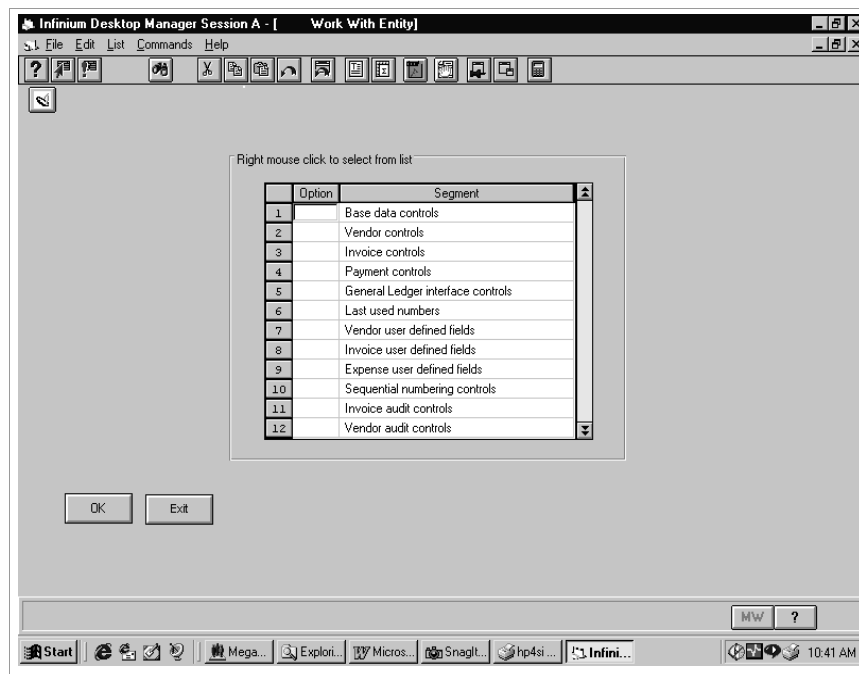

Figure 3-2: Work With Entity selection screen
- Select *Work with entity* [WWE]. The system displays the screen shown in Figure 3-2.
- 5 Press Enter twice. The system returns you to the Work With Entity selection screen shown in Figure 3-2 and updates the entity controls.